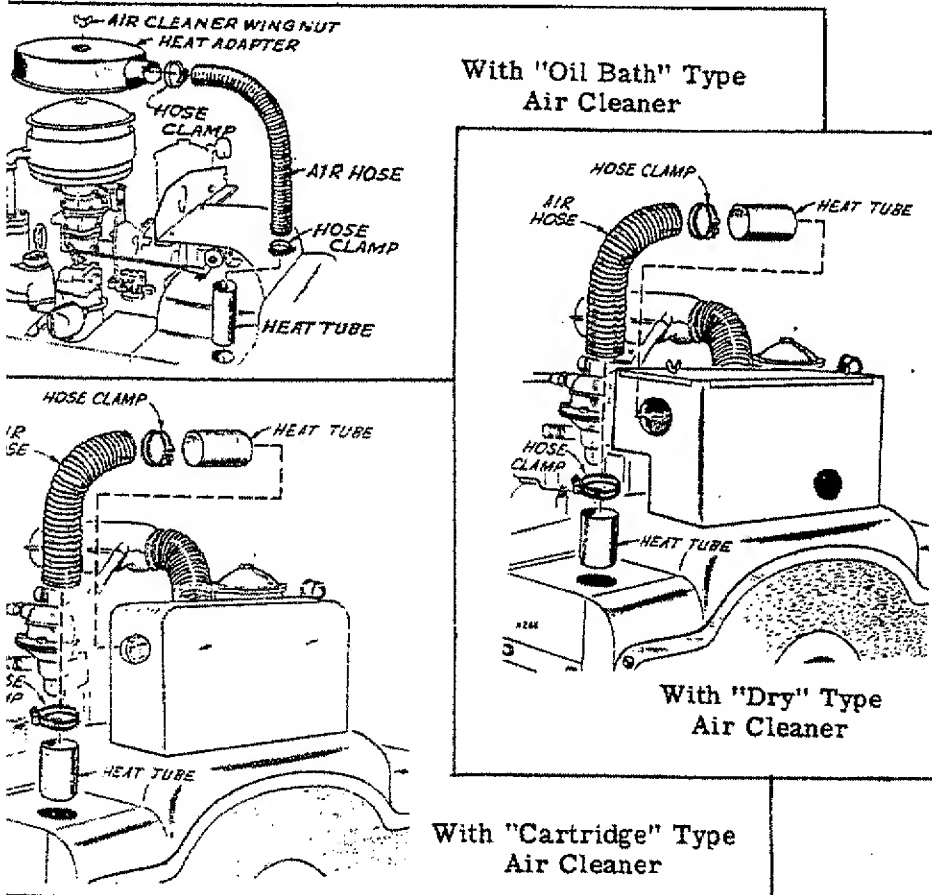

Fig. 12 Air Preheater Hose
**IR PREHEATER HOSE KIT.** - An air preheater kit is supplied with all gasoline plants, for use in temperatures below 50°F. (10°C.). If a gasoline plant is to be operated in temperatures below 50°F., particularly if high humidity prevails, install the preheater kit. Refer to Fig. 12. Remove the sheet metal plug from the upper left corner of the engine blower housing. Assemble the hose to the air tube and insert the tube into the blower housing opening. Attach the other end of the air hose as shown, according to the type of air cleaner used. The preheater is not necessary when operating on kerosene (natural or LPG) fuel, AND SHOULD NOT BE USED.